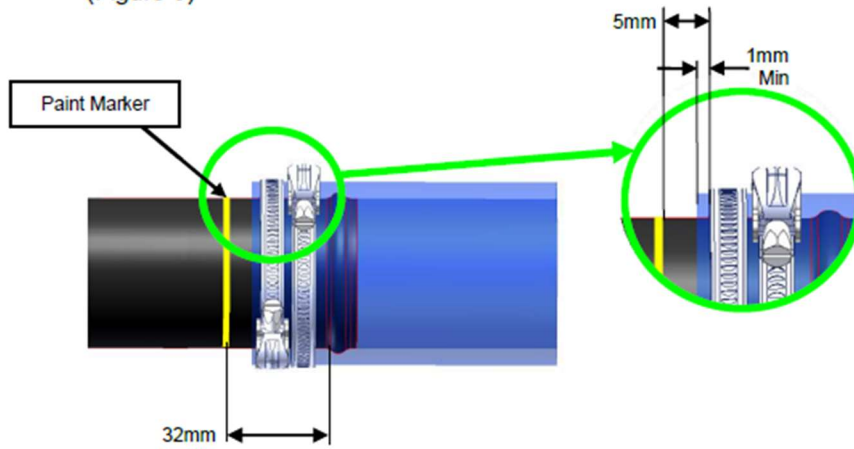

Figure 9
- 4.7.4 Dual clamp Installation: If silicone Hose is short from the 5mm clamp position marker ensures to respect the 1mm minimum excess of silicone hose when clamp is tightened. (Figure 9)
Note 1 :We can install 2 clamps side by side at a distance of 3mm as long as they are not located on a pipe bead and that we can see the hose ends. In places where we can not meet these two criteria, we will only use one clamp. (see figure 9)